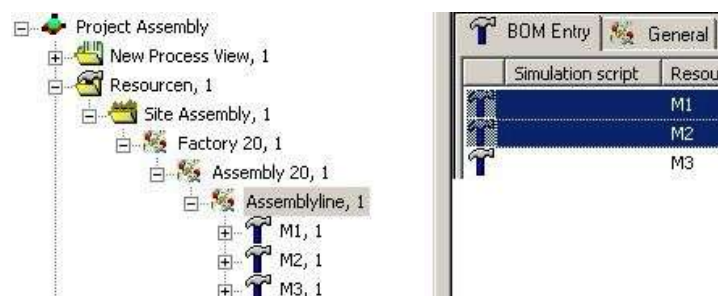

Figure 30: Select Resources in the Listview
- 1) To be able to print graphics of selected resources, first select the parent node - Assemblyline in the example. Please refer to the Figure 30.
- 2) Select the resources in the listview for which you wish to display graphics – Resources M1 and M2 in the example. Please refer to the Figure 30.